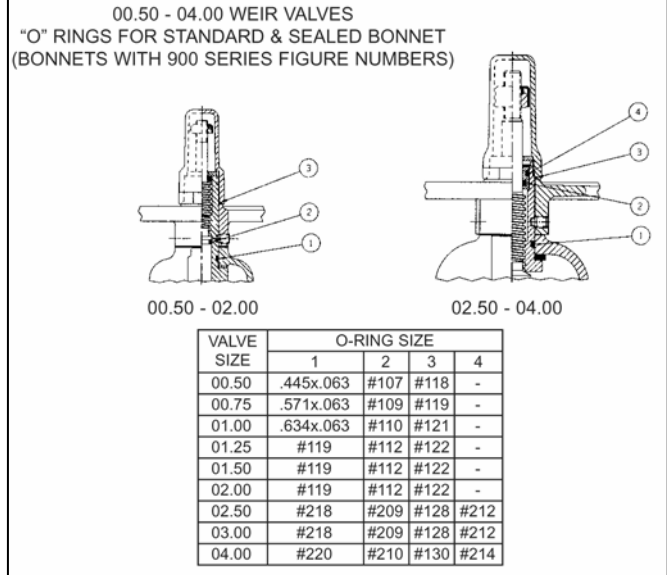

Figure 2
3.6 O-Ring Replacement (Fig. 2)
8. Cover stem threads with masking tape to protect o-ring during installation. After o-ring installation, be sure to completely remove tape. Select correct size for o-rings 1 and 2 (figure 2). Lubricate new o-rings in accordance with Section 3.4 and insert into grooves in bushing and spindle.